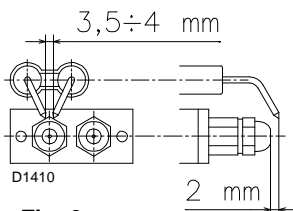

Fig. 9
L'ugello di 1° stadio è quello sotto gli elettrodi d'accensione, fig. 9.
Controllare che gli elettrodi siano posizionati come in Fig. 9.
When the burner is still disassembled from the blast tube, fit the nozzle with the box spanner (1) (da 16 mm), after having removed the plastic plugs (2), fitting the spanner through the central hole in the flame stability disk (5). Do not use any sealing products such as gaskets, sealing compound, or tape. Be careful to avoid damaging the nozzle sealing seat. The nozzles must be screwed into place tightly but not to the maximum torque value provided by the wrench. The nozzle for the 1st stage of operation is the one lying beneath the electrodes, Fig. 9.
Make sure that the electrodes are positioned as shown in fig. 9.